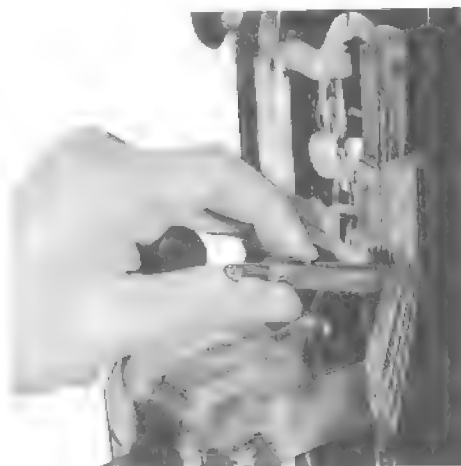

Fig. 53—Adjustment of Housing Contact Springs
- Use a 466A tool to adjust housing contact and equalizing springs to have approximately 1/4-inch follow (Fig. 53).